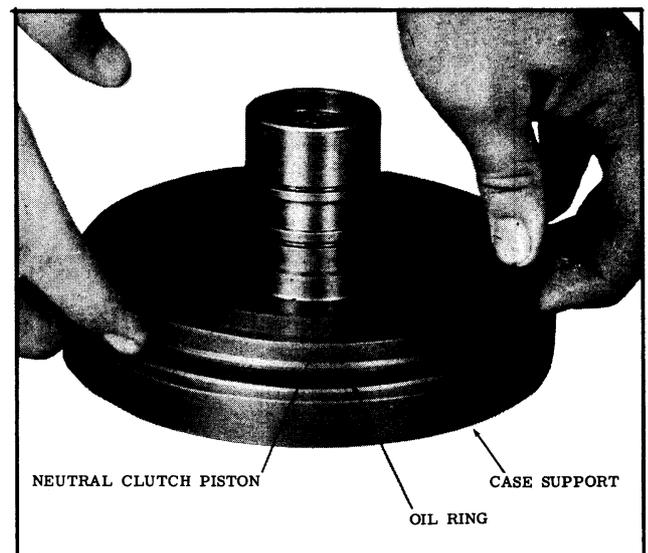

Fig. 3-83 Installing Neutral Clutch Piston
28. Install the neutral clutch piston in the case support with the dowel pins aligned with the holes, then compress oil ring to allow piston to enter the drum. (See Fig. 3-83)